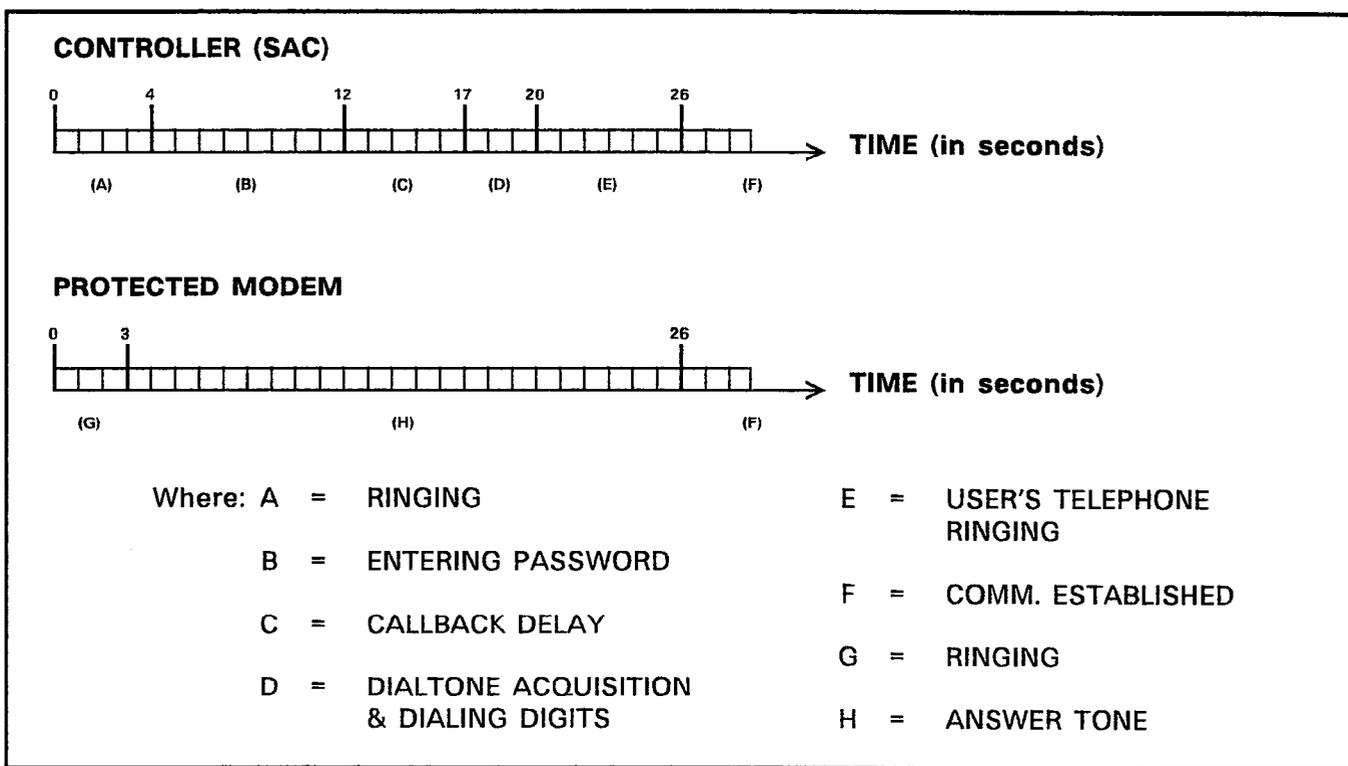

Figure 7-2, Typical Callback Operation, SAC and Modem Timing
7.20 In general, the Controller timing can be programmed to adapt to most situations encountered as long as the protected Modem is capable of remaining ON-LINE for a long enough period to allow call completion. Refer to Figure 7-2 for a graphic representation of the Modem and Controller timing.
7.24 There will be a single progress tone heard in the receiver to inform the caller to enter the password. A double progress tone (two beeps) will be heard to request entry of the callback number. Finally, a triple progress tone will be issued to request that the caller hang up. The timing sequence for the events is the same as those in Figure 7-2 except for the addition of a 16 second period to wait while the Controller waits for the caller to enter the callback number.